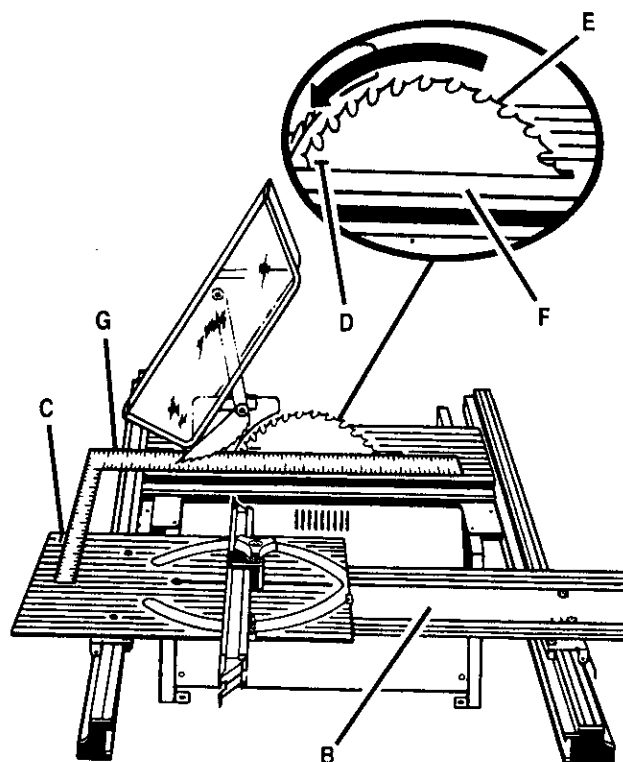

Figure 55
- Remove framing square and slide miter table to the rear of miter base as far as it will go. *See Figure 55.*